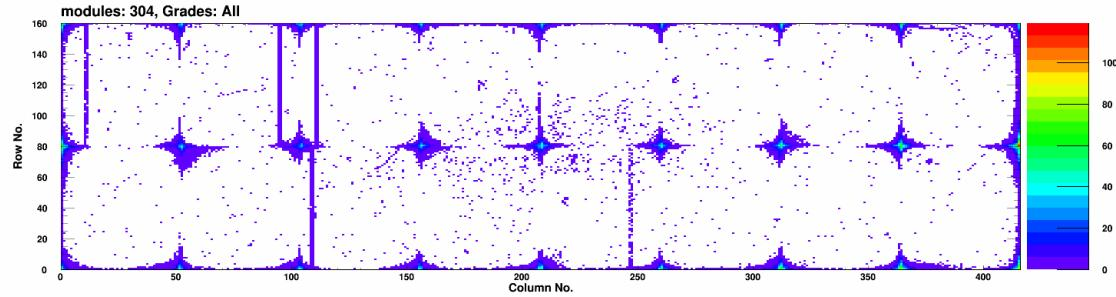

Figure 48: *Overview of all bump bonding defects for the L2 module production.*
Another reason of failure is the number of broken bump bonds (BB) which means that the connection between the read-out chip and the sensor is broken. This concerns 5 L2 and 2 L1 modules. Furthermore, 37 L2 modules are downgraded to B due to a bad BB quality. In order to further constrain the number of bad bump bonds, no module with more than 200 BB defects was selected to be installed in the detector. Figure 48 shows a module map where lighter colours designate pixels where the bump bonds are defective for several modules. Here, the linear structures come from modules with a defective DC which is misinterpreted as broken BBs. This map shows that most of the BB defects appear on the edges and the corners of ROCs, forming so-called "church windows".